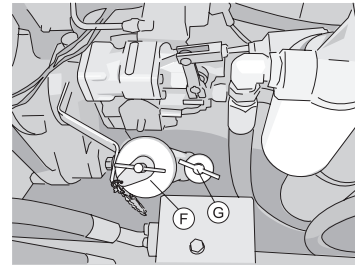

Figure 4-14
- Use filter wrench to rotate it counterclockwise, to remove the engine oil filter's and bypass oil filter's cartridges. Fill the new engine oil filter's and bypass oil filter's cartridges with engine oil, apply a small amount of the engine oil on the gasket, and screw it on the filter's seat. When the gasket touches the sealing surface, make 3/4-1 more turns. After replacing the filter's cartridge, add engine oil through the oil injection port (F) (Figure 4-14).